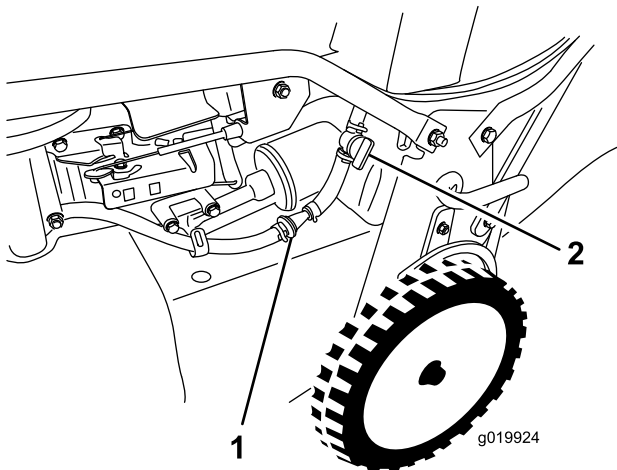

Figure 33
3. Close the fuel shutoff valve (Figure 33).
4. Remove the fuel filter (Figure 33) from the fuel line by loosening the tube clamps surrounding the fuel filter.